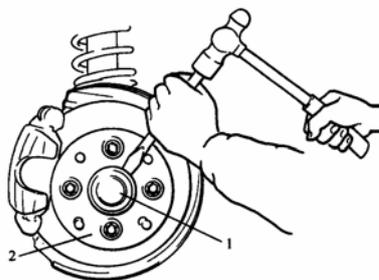

FIG.16-19 1.Cover dust; 2-Hub
- (3) Remove spindle cap as shown in FIG.16-19. (By hammering lightly at 3 locations around it so as not to deform or cause damage to seating part of cap)